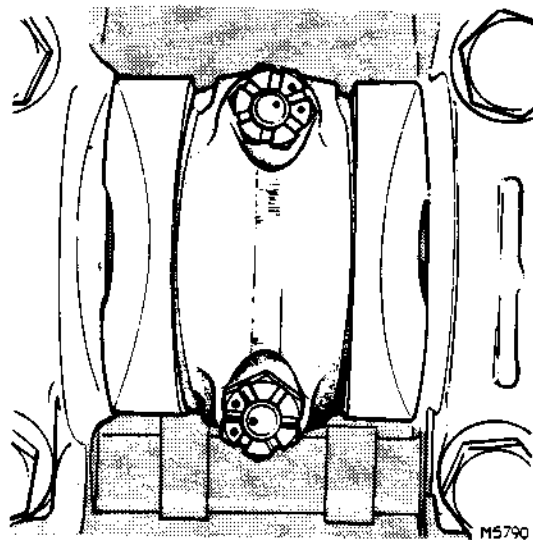

FIG. 5. CONNECTING ROD CAP SHOWING CORRECT ALIGNMENT OF POP MARKS
5. Tighten the connecting rod bolts until the indexed centre pop marks are aligned as shown in Fig. 5, then fit the retaining split pins.
6. Turn crankshaft to appropriate position to receive next pair of piston and rod assemblies and repeat items 2-5.
Consequently when the nut is tightened and the pop marks aligned as shown in Fig. 5 the bolt elongation will be correct and the fitment of the split pin quite straightforward. One of each pair of nuts has an additional pop mark on its side to indicate that it belongs to the bolt on the opposite side to the camshaft.